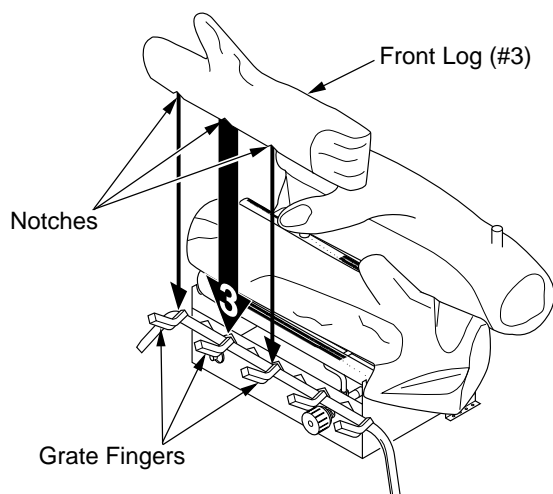

Figure 23 - Installing Front Log (#3)
3. Locate the notches in the bottom of the front log (#3). Place the front log on the grate fingers. Make sure the notches of the front log line up with the grate fingers (see Figure 23).